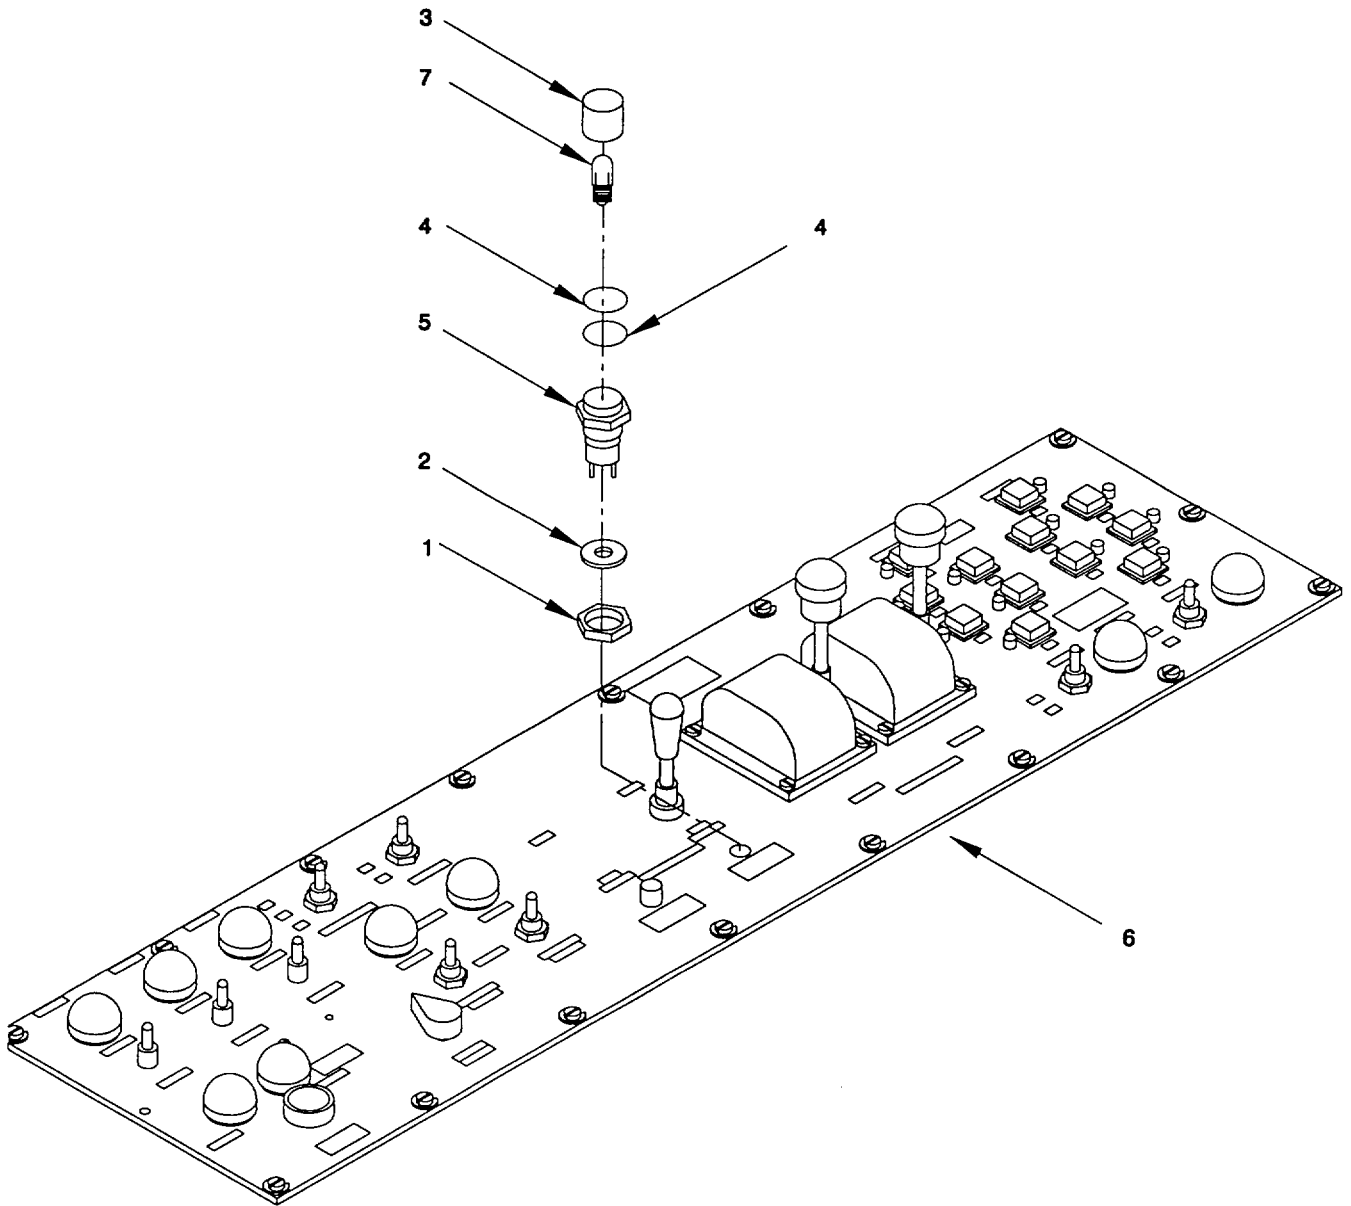

Figure 2-129. Indicators, Thruster Gearbox Oil Low, Lower Control Panel "A2", Remove/Install.
a. Remove. (figure 2-129)
- (1) Tag and disconnect electrical wiring to indicator base (5). Refer to Appendix G.
- (2) For removal of the indicator bases (5) (Thruster Gearbox Oil Low indicators DS10 (Port) and DS11 (Starboard)), remove hex nut (1) and lockwasher (2) from back of lower panel (6).
- (3) Remove the red cap (3), and Preformed packings (4) from indicator base (5). Remove indicator base (5) from lower control panel (6).
- (4) Remove lamp (7) from indicator base (5).
b. Install. (figure 2-129)
- (1) Position the indicator base (5) (Thruster Gearbox Oil Low indicators DS10 (Port) and DS11 (Starboard)) through back of lower control panel (6). Install lamp (7) in indicator base (5).
- (2) Install the two Preformed packings (4) and red cap (3). Replace Preformed packings if damaged.
- (3) Secure indicator base (5) with lockwasher (2) and hex nut (1) on front of panel (6).
- (4) Reconnect the electrical wiring, as tagged, to indicator base (5). Refer to Appendix G. Use tie wraps and mounting bases to secure any loose wiring.